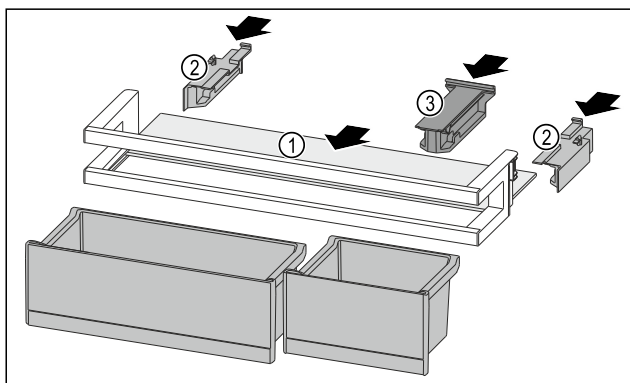

Fig. 175
- Push the shelf *Fig. 175 (1)* into the side recesses.
- Insert the side parts *Fig. 175 (2)*.
- Insert the holding part *Fig. 175 (3)*.